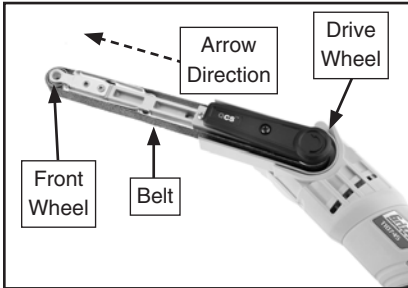

Figure 5. Sanding belt installed.
- Place sanding belt over front and rear drive wheels, making sure arrow on sandpaper points toward front of arm (see **Figure 5**).